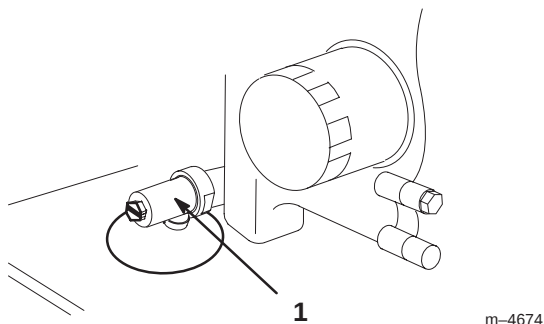

Figure 41
3. Place a pan below the oil drain. Use either a flat screw driver, 3/8 inch wrench or 10 mm wrench to open valve (Fig. 41).
4. Rotate valve end clockwise to close valve. Rotate valve end counterclockwise to open valve (Fig. 41).
5. When oil has drained completely, close the drain valve (Fig. 41).